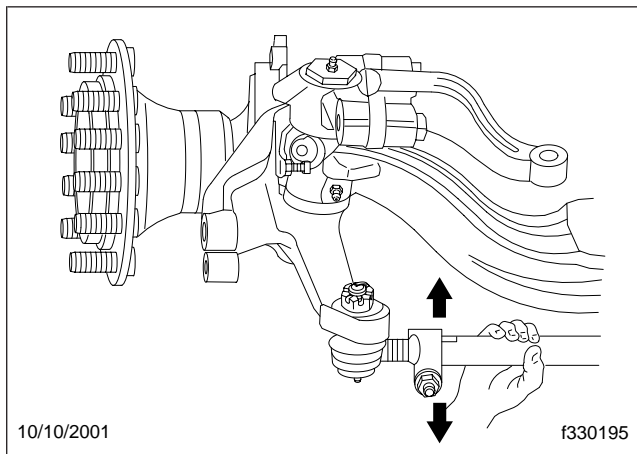

Fig. 4, Check Movement of Tie Rod End
4. Position yourself directly below the ball stud socket. Using both hands, grab the end as close to the socket as possible, no more than 6 inches (15.2 cm) from the end. Firmly apply about 100 pounds of hand pressure in an up and down motion several times. When moving the assembly, check for any movement at both tie rod ends. See Fig. 4.